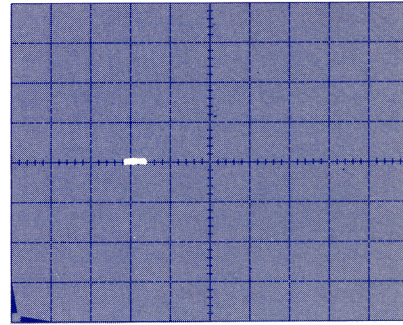
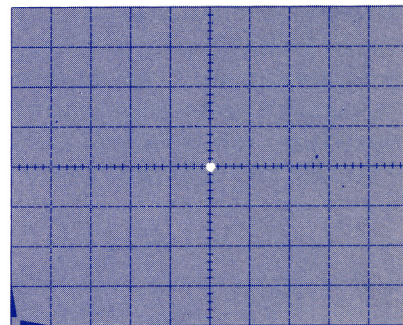

Figure 2-1. Trace was obtained by setting VARIABLE COLLECTOR % control to approximately 25.
Figure 2-2. A well defined spot brought to center of screen by the OUTPUT VOLTAGE COMPARISON control.
- 3) Set comparison voltage — Press and hold red INTERLOCK DEFEAT button to supply power to DUT. Set VARIABLE COLLECTOR % to approximately 25. Set OUTPUT VOLTAGE COMPARISON dial to position spot half way up graticule vertical axis. See Figure 2-1. Rotate VARIABLE COLLECTOR % to move spot toward center of screen and obtain well defined round spot. Notice when +SUPPLY overload light on the 178 test fixture extinguishes and stop at that point. Rotating VARIABLE COLLECTOR % even 1 degree farther may prevent display from appearing in step 5. See Figure 2-2. Value on the OUTPUT VOLTAGE COMPARISON dial is regulator no-load output voltage. **51 8 41 63**